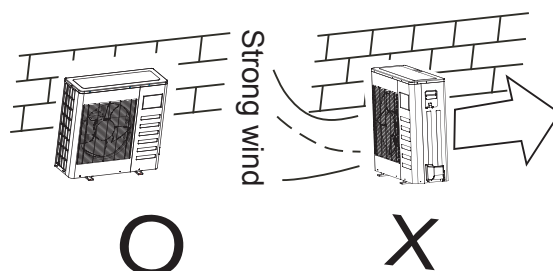

Fig. 6-1
- In the case that the installation place is exposed to strong wind such as a seaside, make sure the fan operating properly by putting the unit lengthwise along the wall or using a dust or shield. (Refer to Fig. 6-1)